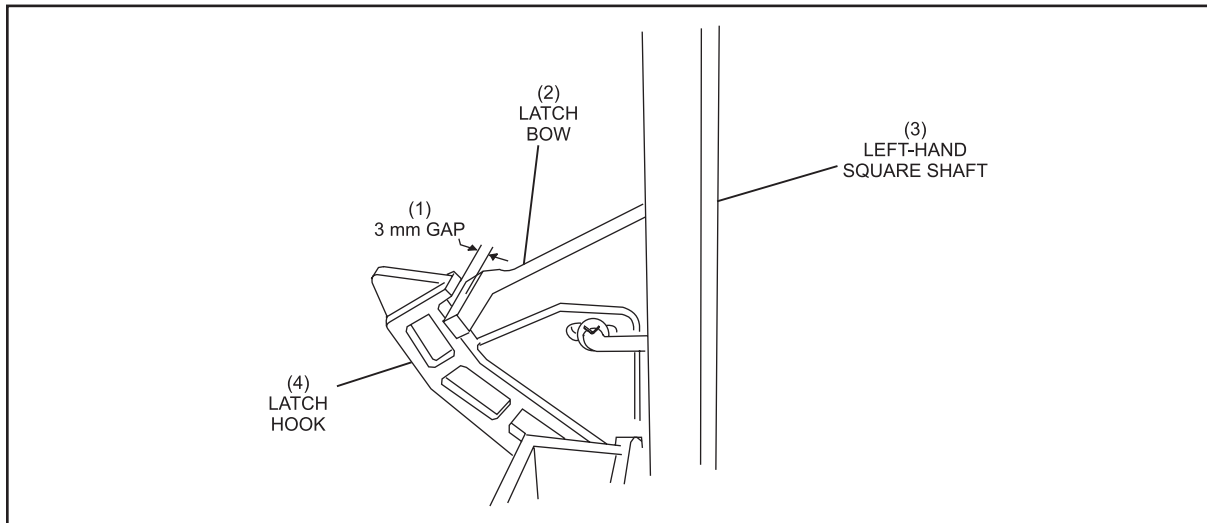

Figure 5-46. Rear Swing Shaft's Latch Bow and Latch Hook
2. Check for a gap of 3 mm between the rear swing shaft's latch bow and the latch hook. Adjust the horizontal stop bolt on the rear swing shaft to obtain the 3 mm gap. Refer to *Figure 5-46 & 5-47*.